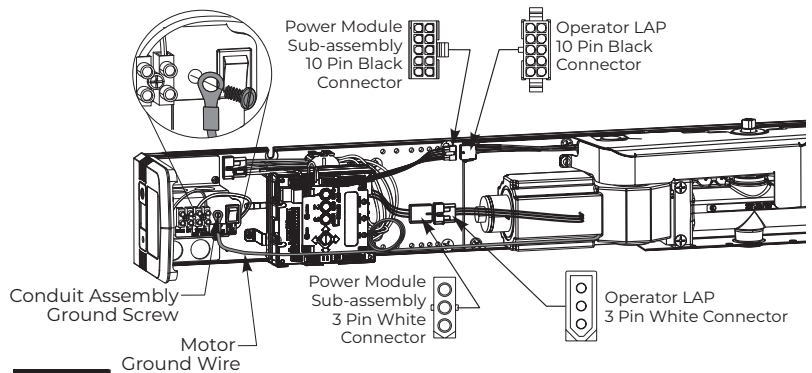

Figure 16
1. Attach 10-pin black connectors between operator LAP and power module sub-assembly. (Figure 16)
2. Attach 3-pin white connectors between operator LAP and power module sub-assembly. (Figure 16)
3. Remove the Conduit Assembly Ground screw. Use the screw to fasten the motor ground wire's ring connector to the Conduit Assembly. (Figure 16)